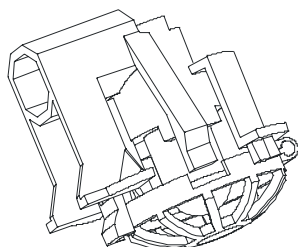
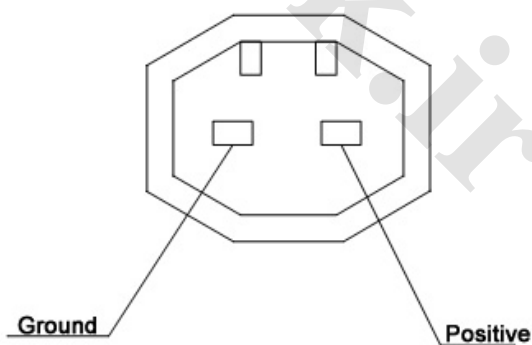

Fig. 4-72
Fig. 4-73
7. Luggage boot lamp (Fig. 4-72 and Fig. 4-73)